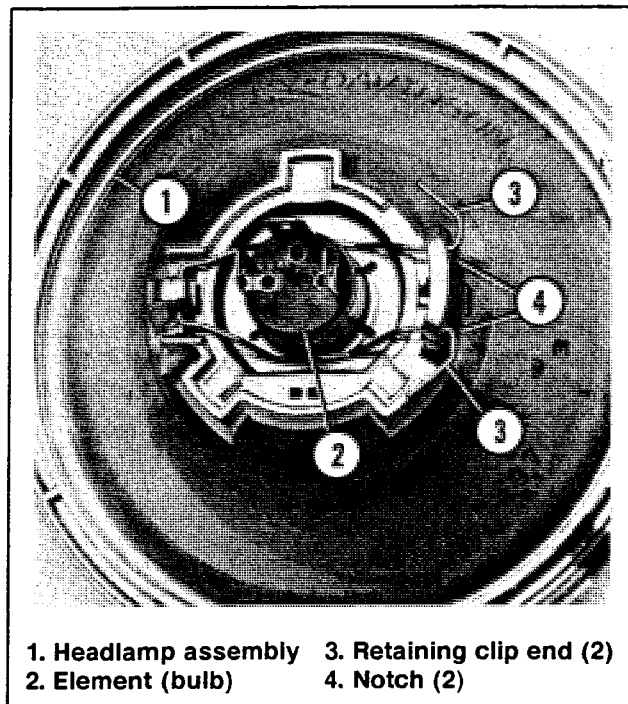

Figure 2. NAL Headlamp Element (Bulb)
See Figure 2. The new NAL headlamp assembly (1) uses the same replaceable H-4 halogen element (bulb) (2) that was used on the previous headlamp assembly (H-D Part No. 67698-81B, made in France by Auteroche). However, due to the different design of the NAL headlamp lens, a revised headlamp alignment procedure is required in order to conform with all applicable federal and state standards of conspicuity and luminosity. See NAL HEADLAMP ALIGNMENT in this Service Bulletin.
4. See Figure 2. Depress wire retaining clip ends (3) to unhook them from notches (4) in headlamp assembly (1).